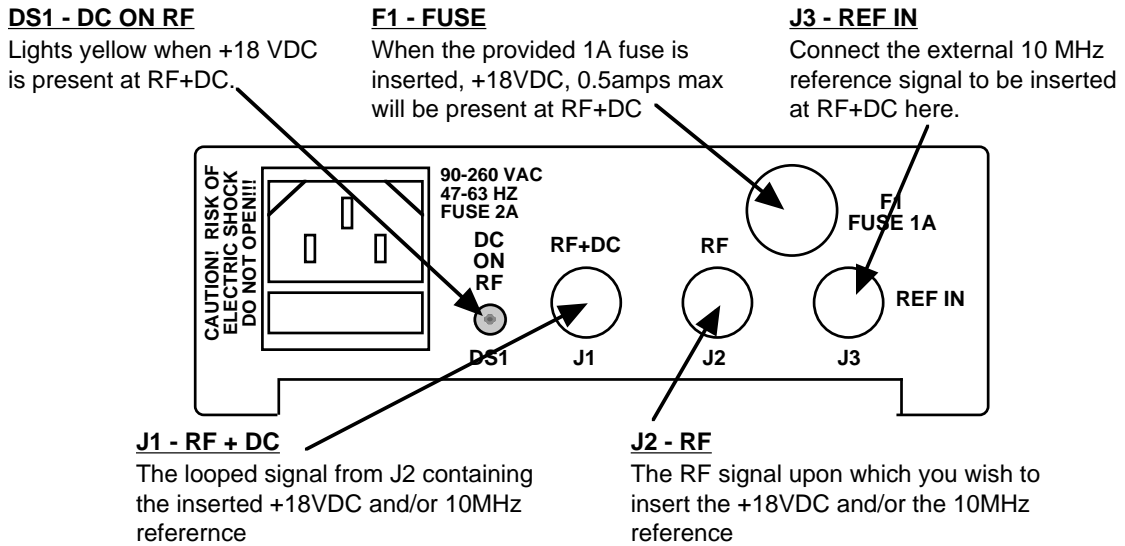

FIGURE 2.2 Rear Panel I/Os
2.2 Rear Panel Input/Output Signals - Figure 2.2 shows the input and output connectors on the rear panel.
1. Connect an RF signal to RF connector, J2 (Figure 2.2).
2. Connect RF+DC connector, J1, to the external equipment (Figure 2.2).
3. To insert +18VDC on the RF signal insert a 1 amp fuse (provided) in fuse holder, F1 (Figure 2.2).
4. To insert a 10MHz reference signal on the RF signal connect a 10MHz source to the REF IN, J3 (Figure 2.2).
5. Connect 90- 260 VAC, 47 - 63 Hz to AC on the back panel (Figure 2.2).
7. If fuse, F1, is inserted check that LNB Power LED, DS1, is on (Figure 2.2)